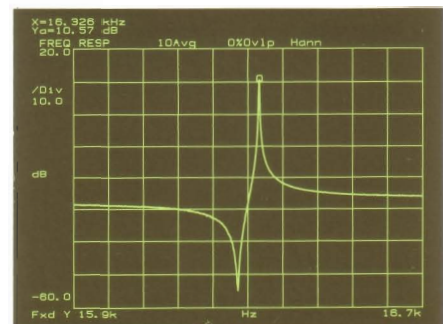

Figure 2-4
**4. Start** Press the **START** key. The zoom measurement will be displayed. For better resolution, repeat the above process using the X-axis marker, or by numeric entry of a new frequency span. Figure 2-4 shows a zoom measurement of the crystal filter at a span of 800 Hz (1 Hz resolution).